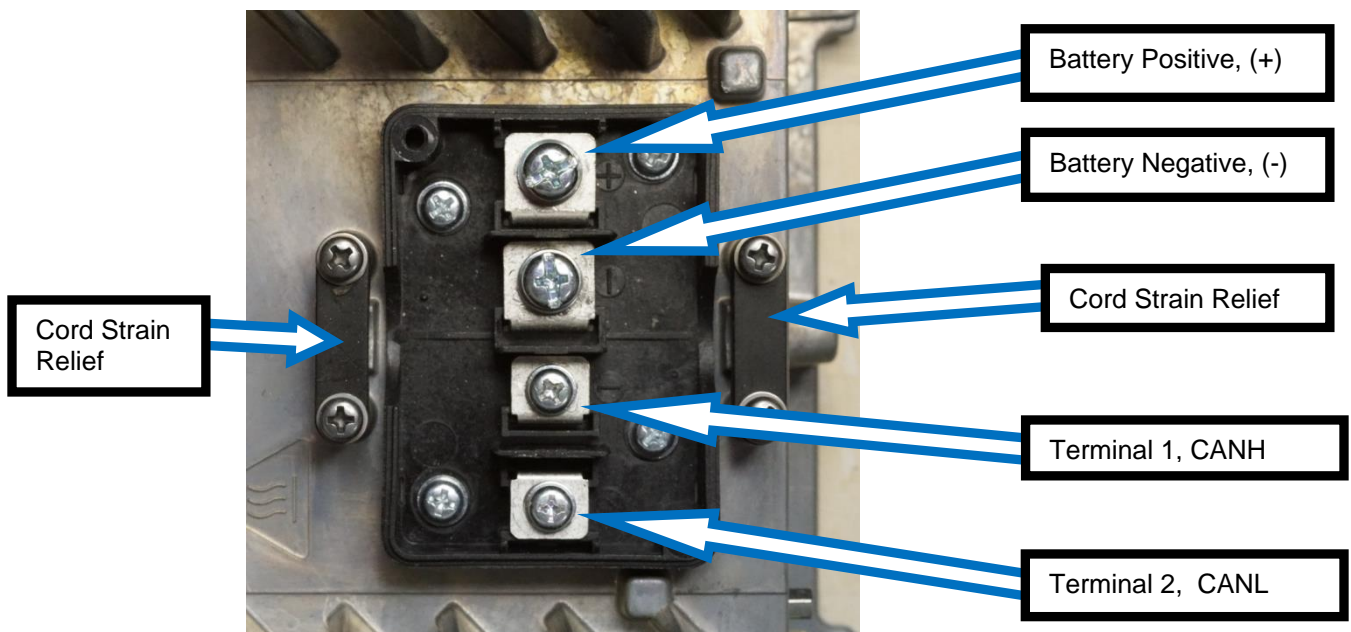

Figure 6.2-2 DC Terminal Block - Models: 28760, 29420 & 30420
**WARNING: DO NOT CONNECT EXTERNAL TEMPERATURE SENSOR OR LOCKOUT WIRES TO THE CHARGERS LISTED IN FIGURE 6.2-2 OR DAMAGE TO THE CHARGER WILL OCCUR.**
⚠ WARNING: DO NOT CONNECT LOCKOUT WIRES TO THE CHARGERS LISTED IN FIGURE 6.2-2 OR DAMAGE TO THE CHARGER WILL OCCUR.